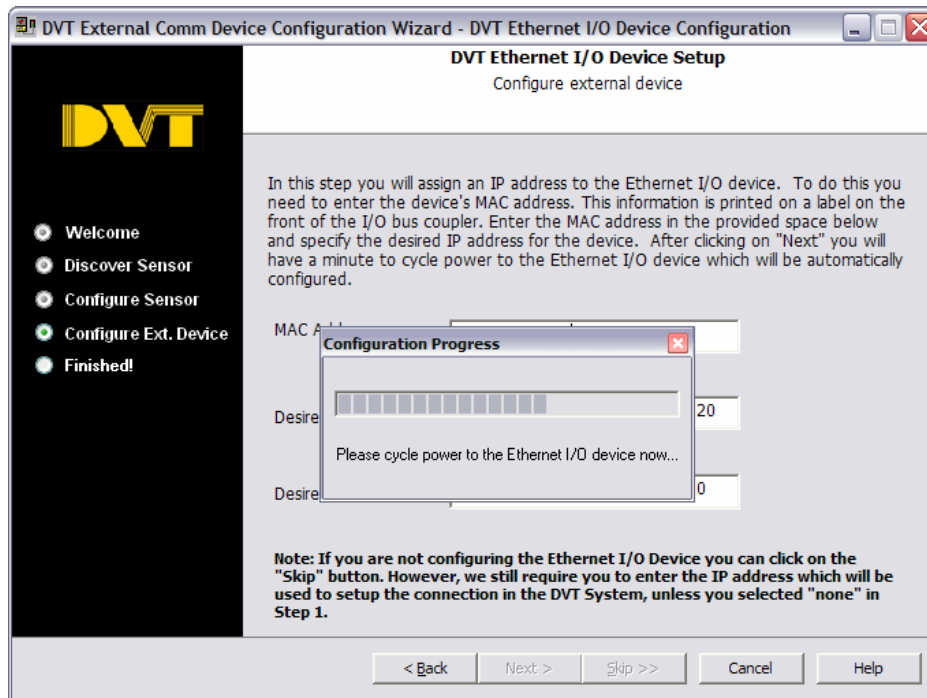

Fig. 9
- You will see a progress bar appear on the screen. See Fig. 9 The progress bar informs you of the status of the configuration.